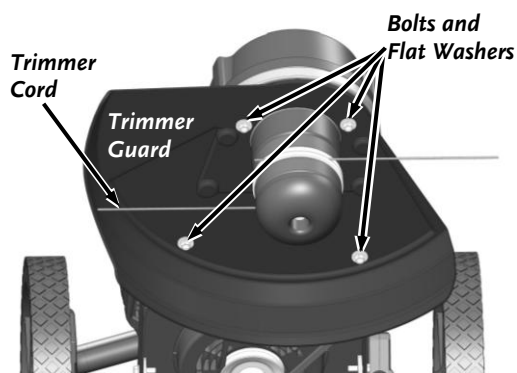

Figure 15
3. Remove the four Trimmer Guard Bolts and Flat Washers with a 3/8" Wrench. Remove the Trimmer Guard (**Figure 15**).
10. Position the Trimmer Guard and secure with the four Bolts and Flat Washers using the 3/8" Wrench (**Figure 15**).